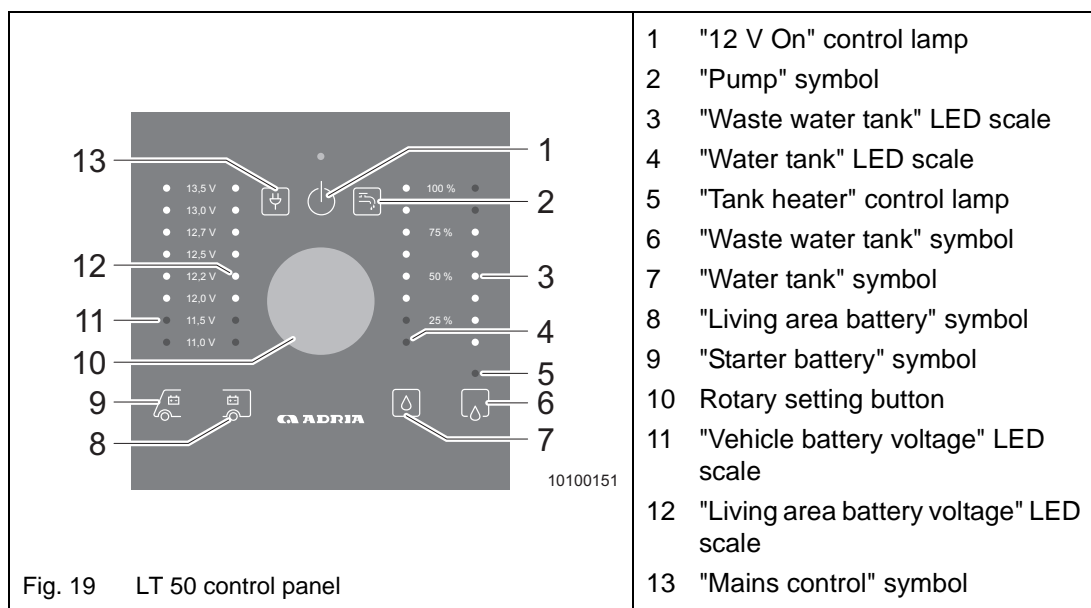

Fig. 19 LT 50 control panel
- The "Mains control" symbol (Fig. 19/13) lights and the batteries are charged.
- ➔ Briefly press the rotary setting button (Fig. 19/10) to switch the supply voltage for the 12 V appliances on or off.
The "12 V On" control lamp (Fig. 19/1) lights when the 12 V appliances are switched on.
- ➔ Turn the rotary setting button (Fig. 19/10) until the desired battery symbol (Fig. 19/8) or (Fig. 19/9) lights.
The scale legend "Volt" (left) lights and the battery voltage of the selected battery is shown on the LED scale concerned (Fig. 19/11) or (Fig. 19/12).
- ➔ Turn the rotary setting button (Fig. 19/10) until the desired tank symbol (Fig. 19/6) or (Fig. 19/7) lights.
The scale legend "%" (right) lights or blinks and the fill level of the selected tank is shown on the LED scale concerned (Fig. 19/3) or (Fig. 19/4).
- ➔ Turn the rotary setting button (Fig. 19/10) until the water tank fill level is shown on the LED scale (Fig. 19/4).
The pump is on when the "Pump" symbol (Fig. 19/2) lights.
- ➔ Press the rotary setting button (Fig. 19/10) to change the switched state.
The "Pump" symbol (Fig. 19/2) lights or goes off. The 12 V supply of the pump is switched on or off.
- ➔ Turn the rotary setting button (Fig. 19/10) until the waste water tank fill level is shown on the LED scale (Fig. 19/3).
The tank heater is on when the red LED (Fig. 19/5) above the "Waste water tank" symbol (Fig. 19/6) lights.
The red LED (Fig. 19/5) lights or switches off. The 12 V supply of the tank heater is switched on or off.